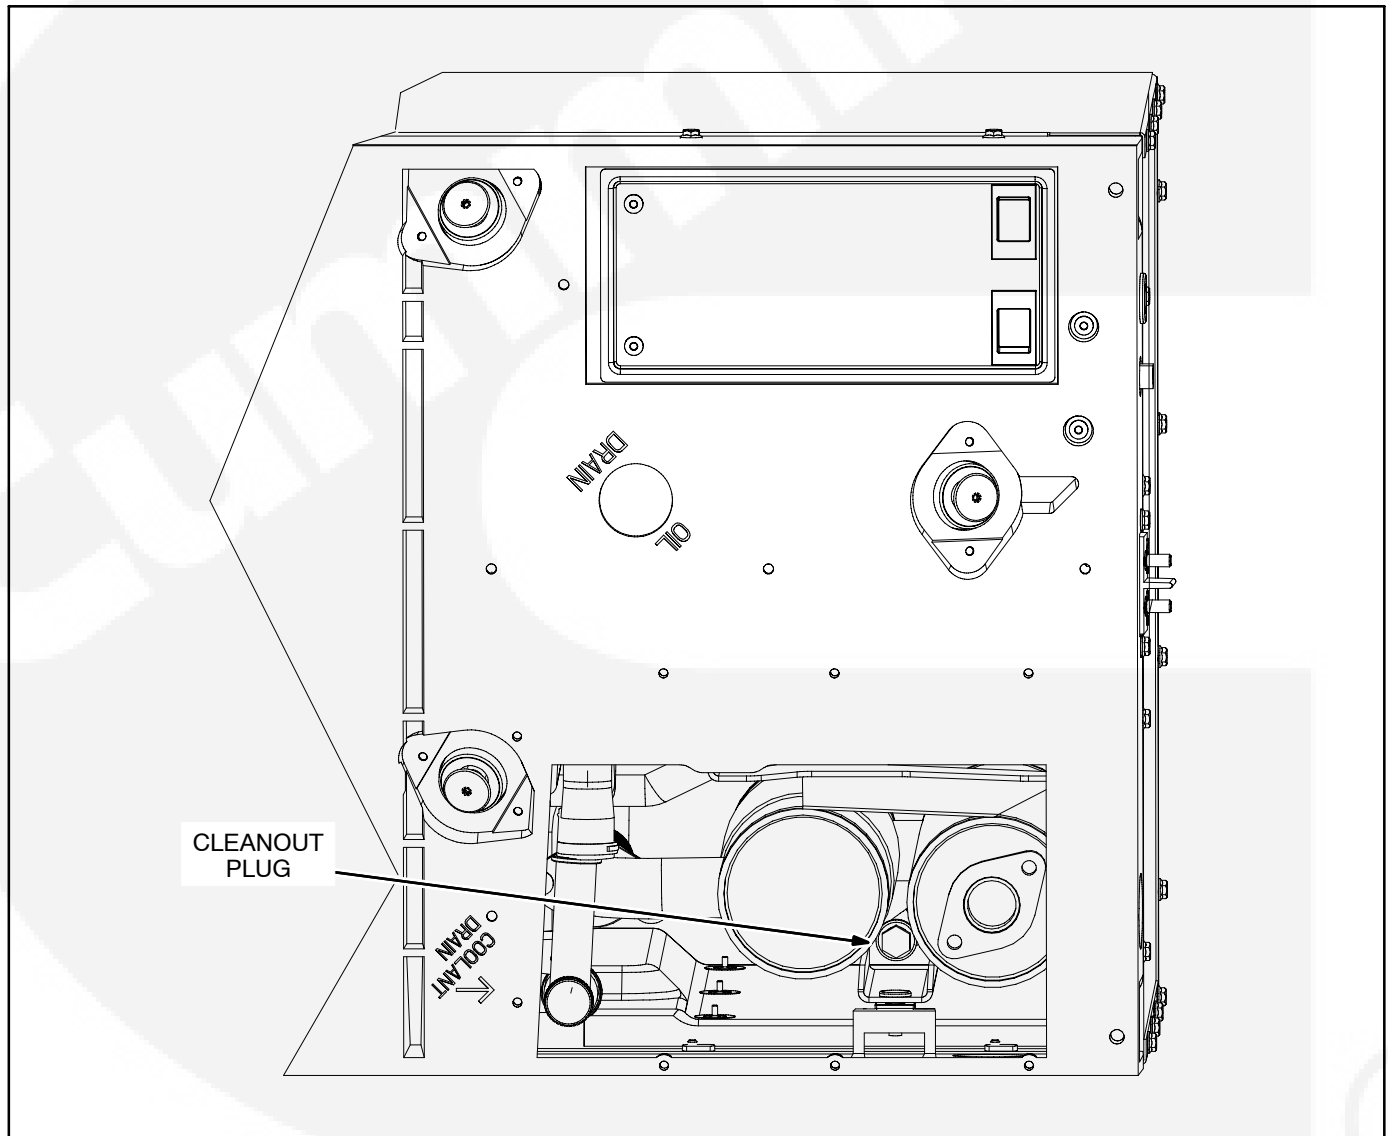

FIGURE 5-3. SPARK ARRESTOR CLEANOUT PLUG
1. Remove the cleanout plug from the muffler (Figure 5-3).